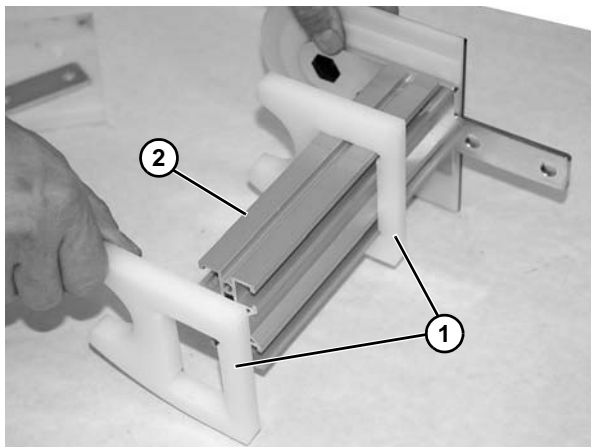

Figure 84
11. Remove gap filler plates (**Figure 84, item 1**) from crossmember (**Figure 84, item 2**).